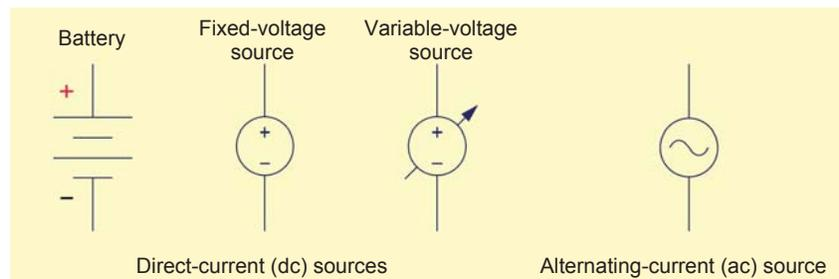

Figure 5. Symbols used to represent dc and ac voltage sources in electrical diagrams.
Figure 5 shows symbols used to represent dc and ac voltage sources in electrical diagrams. The arrow on a symbol indicates that the source voltage can be varied.
*In Figure 5, the “+” and “–” signs appearing on the left of the symbols for the dc voltage sources are shown for instructive purposes. Often, these signs are not shown in electrical circuits because the polarity of the source terminals is indicated by the length of the lines (dashes) in the source symbol: the longer line identifies the positive (+) terminal, while the shortest line identifies the negative (–) terminal.*